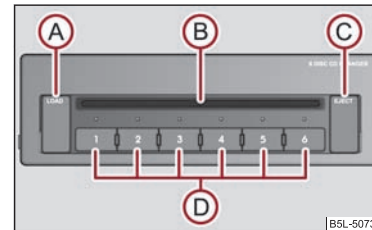

Fig. 122 The CD changer
- Touch the button **A** ⇒ fig. 122 and guide the CD (compact disc) into the CD-case **B**. The CD is automatically loaded onto the next free position in the CD-changer. The LED in the corresponding button **D** stops flashing.